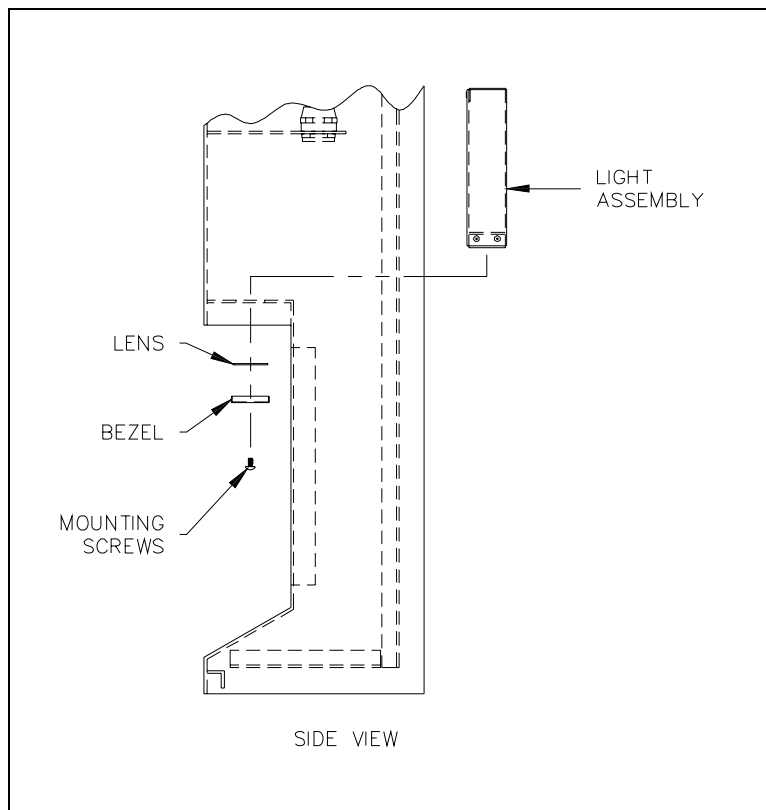

Figure 5. Stanchion Panel Light Assembly
2. Align the stanchion panel light assembly inside the stanchion as shown in Figure 5.
6. Secure the bezel and the lens to the stanchion. See Figure 5.